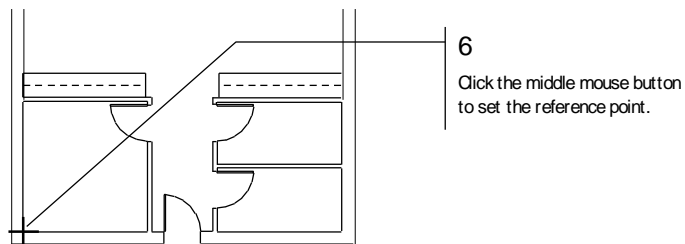

Figure 3.43: Setting a reference point.
6. Click the middle mouse button near the lower left corner of the interior wall shown in Figure 3.43. This will be your reference point. You are prompted to *Select one jamb of window.*